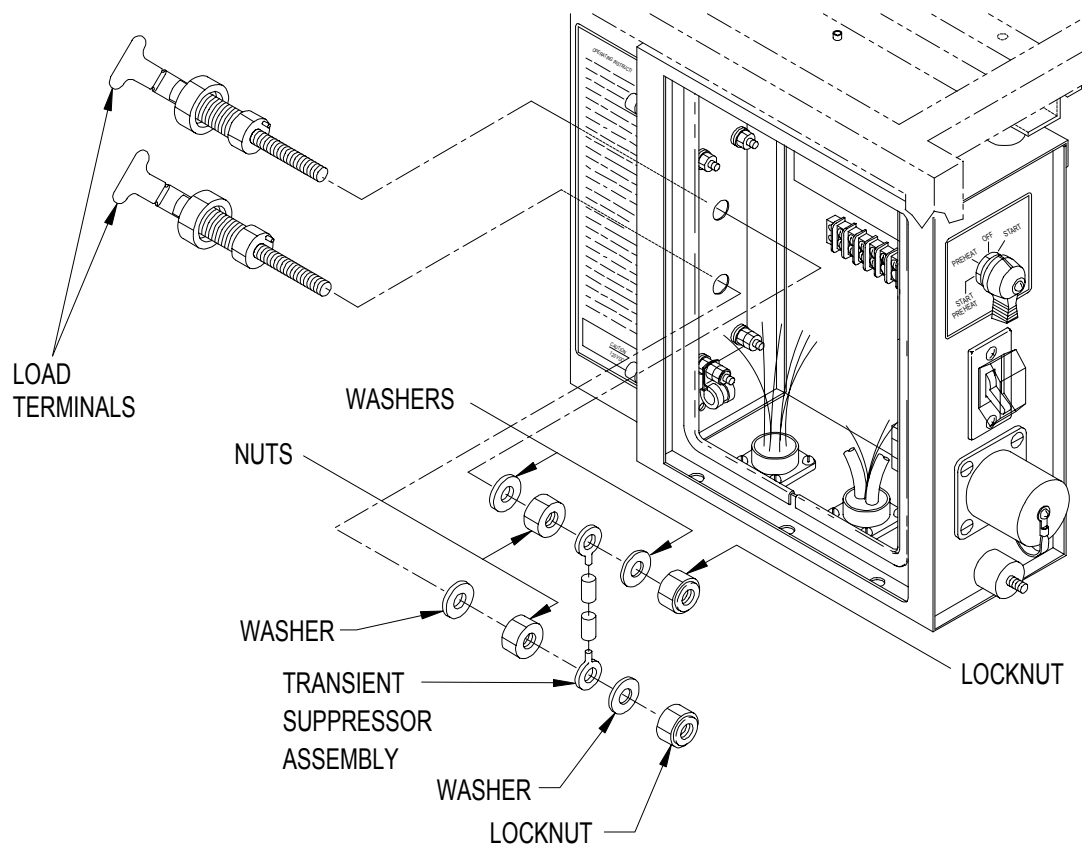

Figure 4-37. Load Terminal(s) (MEP-501A and Mechtron Sets)
- (1) Shut down generator set.
- (2) Release lug cover by turning two fasteners, open lug cover.
- (3) Disconnect load cables from load terminals (Figure 4-37) as necessary.
- (4) Release instrument panel by turning fastener, open instrument panel slowly.
- (5) Remove locknuts, washers, transient suppressor assembly, and nuts from load terminals.
- (6) Tag and remove electrical leads from load terminals.
- (1) Install load terminals (Figure 4-37) in load terminal board. Then hold terminal body hex with wrench and install washers and nuts.
- (2) Position transient suppressor assembly and electrical leads on load terminals and secure with washers, nuts, and locknuts. Remove tags.
- (3) Close and secure instrument panel.
- (4) Connect load cables to load terminals as necessary.
- (5) Close and secure lug cover.